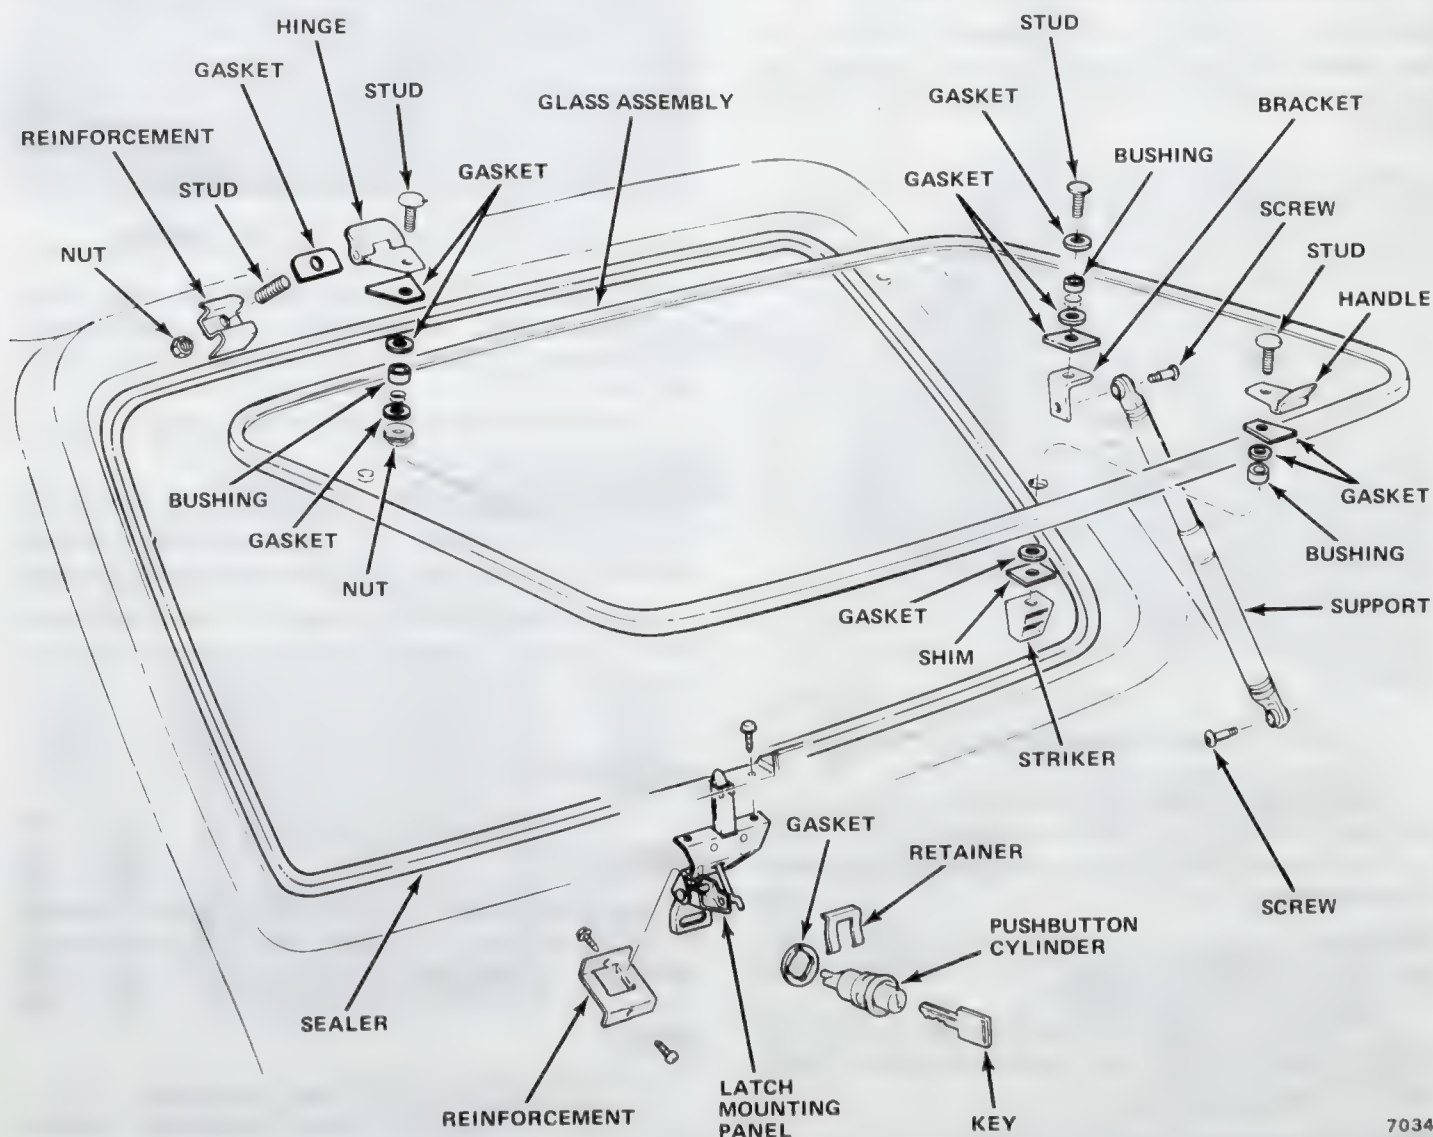

Fig. 3H-9 Gremlin Liftgate Components
(3) Remove support to liftgate bracket screws (fig. 3H-9) and fold supports downward.
(4) Disconnect wires for rear window defogger, if equipped and tape wire ends to glass to prevent damage.
(5) Close liftgate and engage latch.